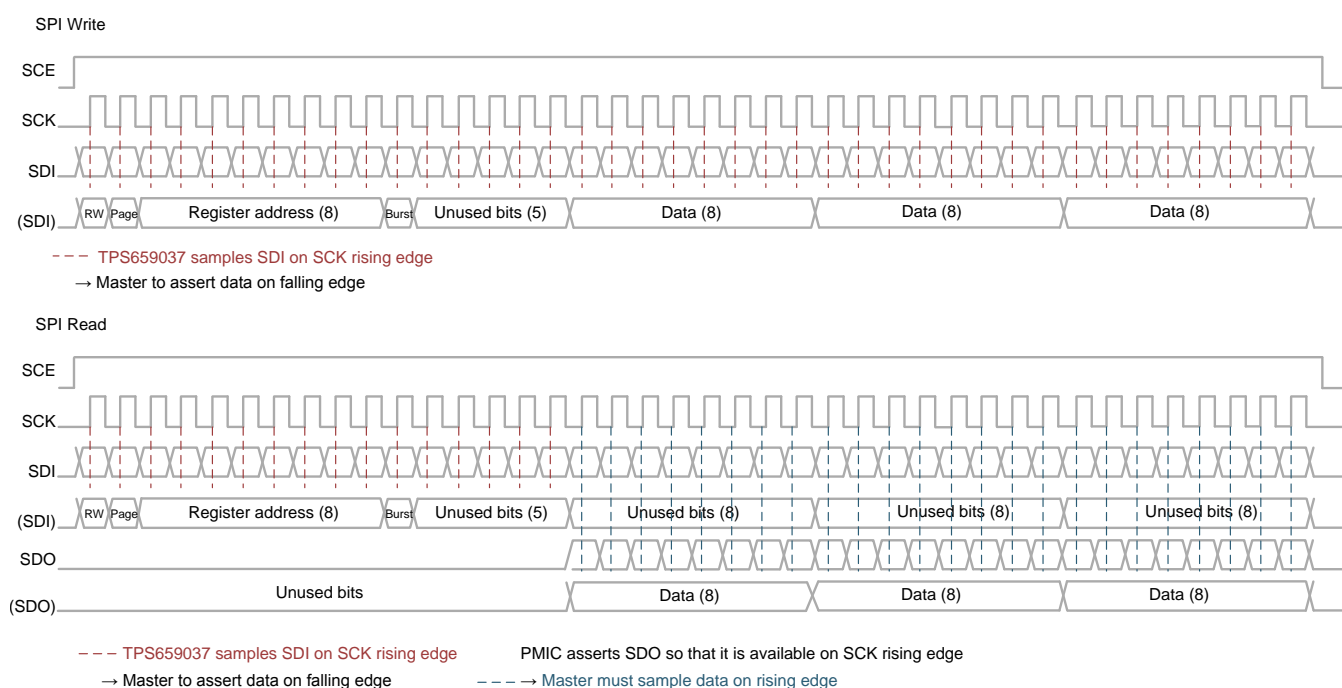

Figure 5-16. SPI Burst Read and Write Access
- This consists of fetching and storing several data at contiguous locations. The protocol is depicted in Figure 5-16.